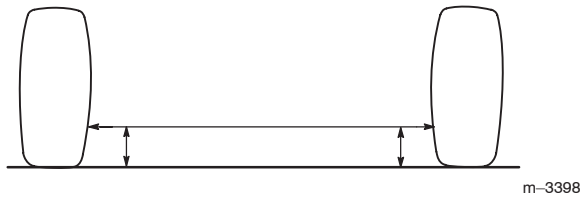

Figure 3
6. Adjust the tie rod so that the toe-in (measure at the front of the tires) is within 1/8 of an inch when the wheels are in the straight ahead position. The measurement must be taken at the same height from the ground on both the front and rear (Fig. 3). After adjusting, the slots in the tie rod and the clamps should face downwards.